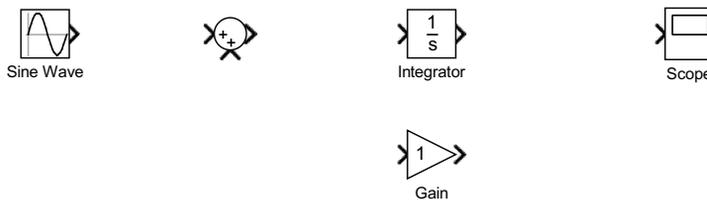

Figure 1.5: Add needed components to the model window.
- Drag needed blocks into the model region [Figure 1.5.]: